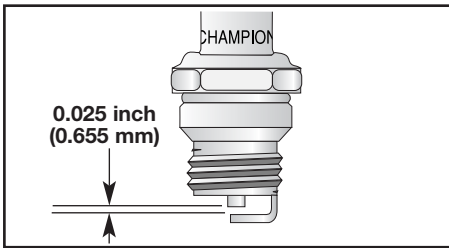

Fig. 27
3. Set the air gap at **0.025 in. (0.655 mm)** using a wire feeler gauge (Fig. 27). Install a correctly gapped spark plug into the cylinder head. Torque to **110-120 in•lb (12.3-13.5 N•m)**.